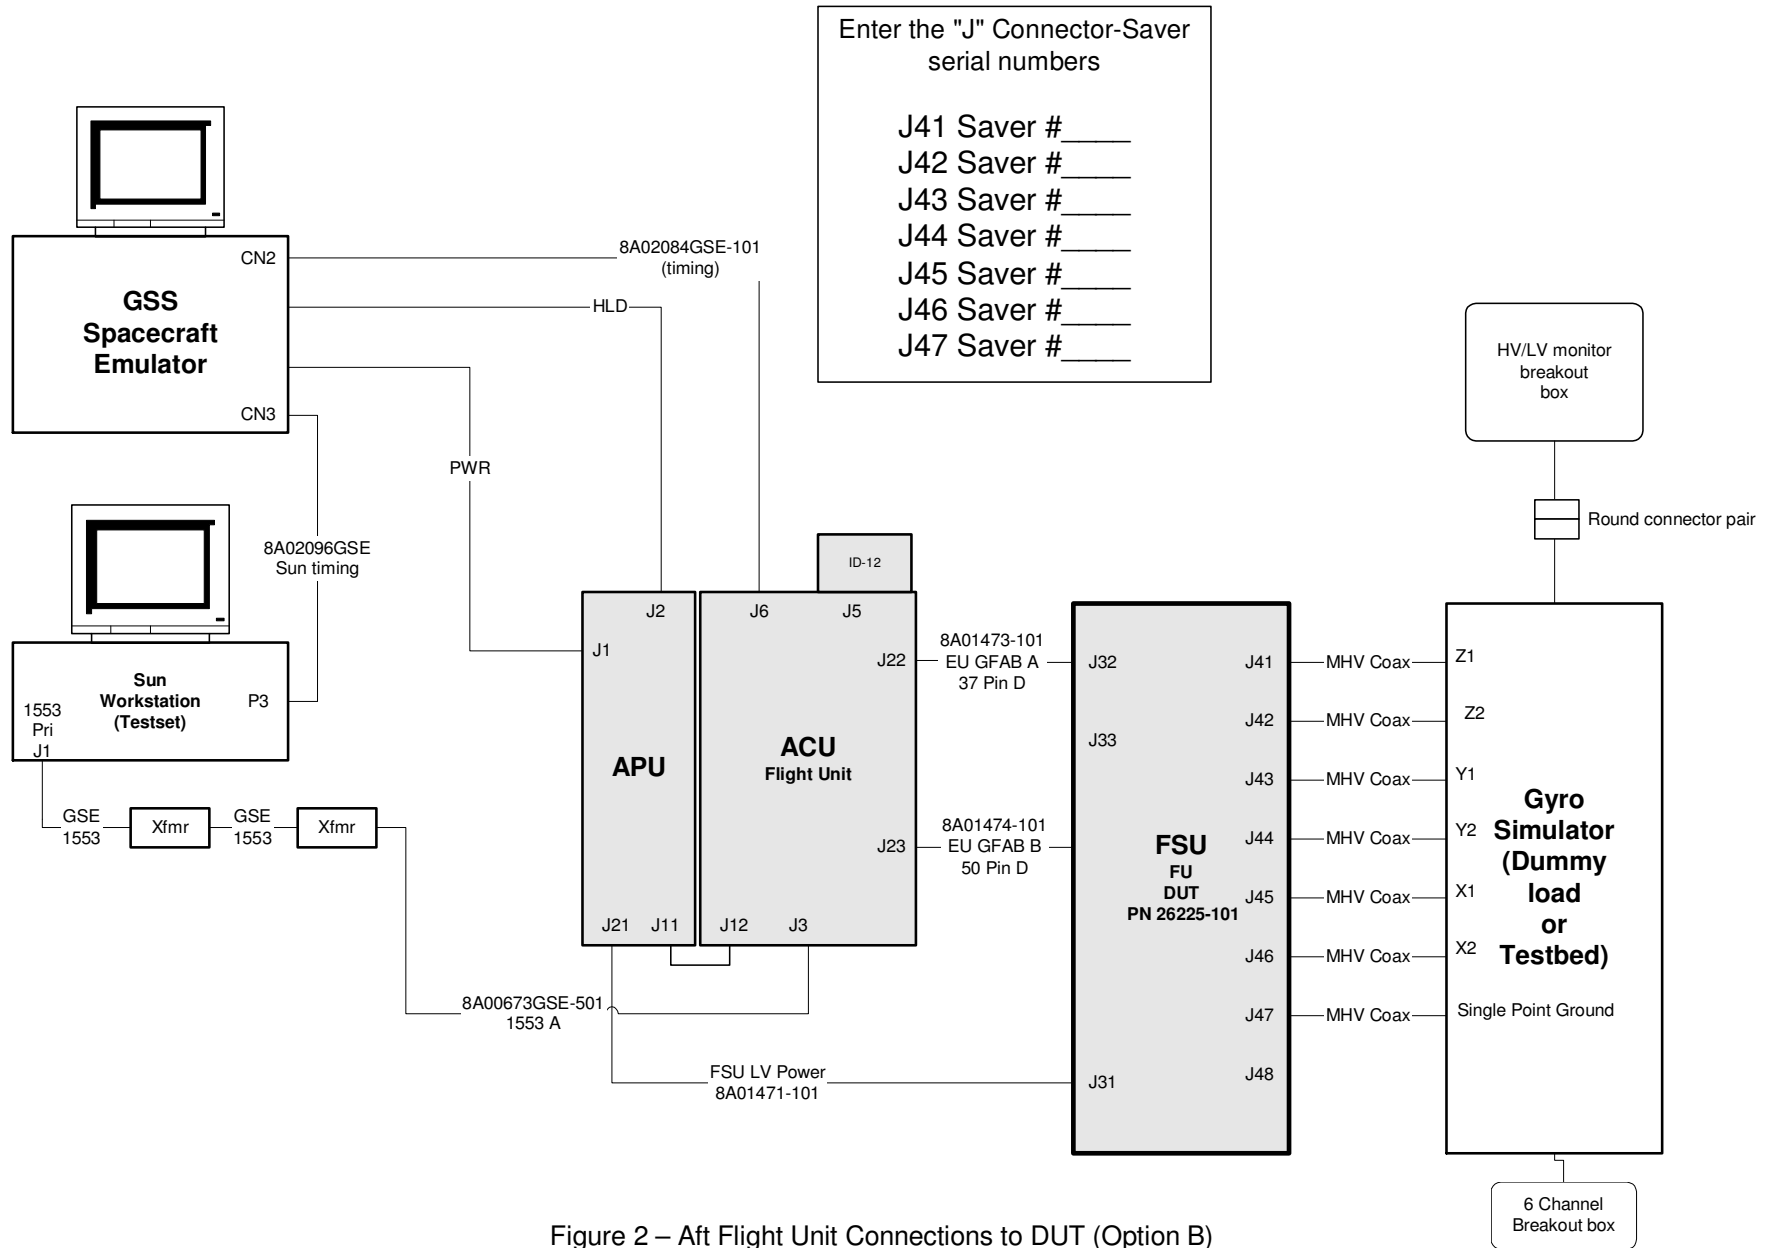

Figure 2 – Aft Flight Unit Connections to DUT (Option B)
14.4.2 Connect FSU (DUT) to ASU and GSE as shown in Fig. 2.